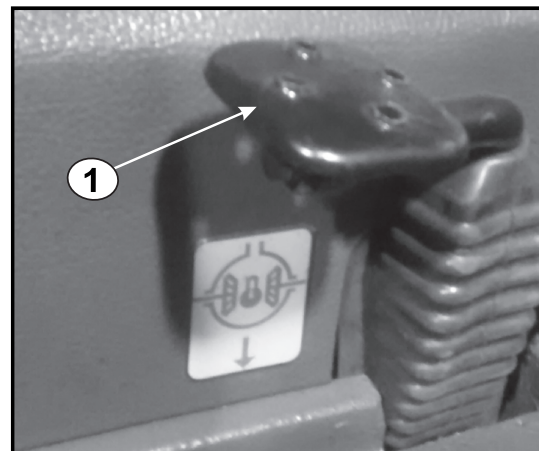

Fig. 4-18
The rear axle differential is equipped with a locking device to engage when one of the rear wheels slips owing to lack of grip. To lock the differential, slow the tractor down and fully press the pedal (1) (Fig. 4-18).